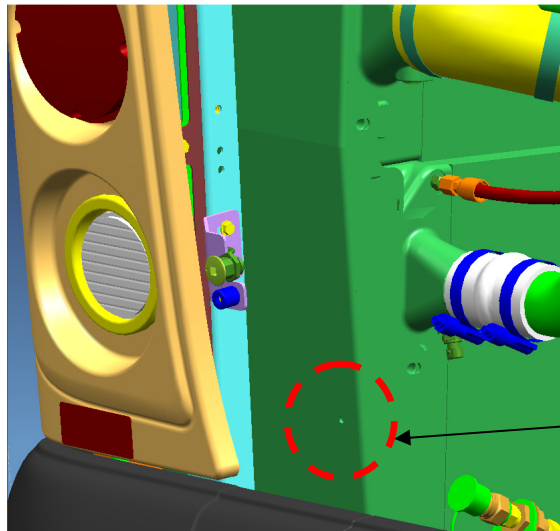

Figure 4: Fir Tree Mounting Hole
4. Locate and remove the fir tree insert from the hole located on the rear of the existing radiator as shown in Figure 4. Disconnect any tyrap and or wires from the fir tree insert.